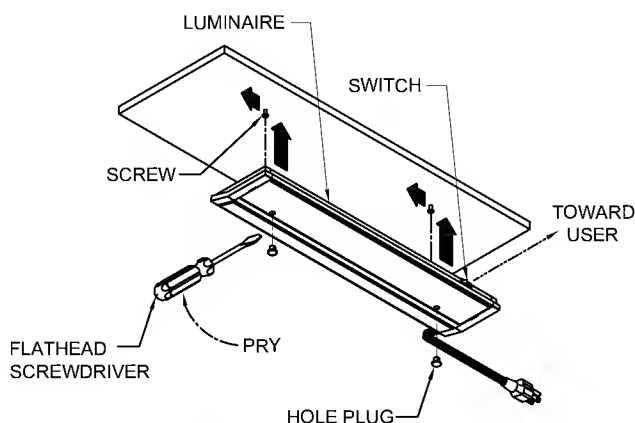

FIG. 2
2. Remove HOLE PLUGS by gently prying them out using a FLATHEAD SCREWDRIVER (retain HOLE PLUGS)(FIG. 2).
3. Align luminaire's KEYHOLE SLOTS over SCREWS making sure SWITCH is facing outward towards user. Push LUMINAIRE up and pass SCREWS through KEYHOLE SLOTS and shift luminaire to left (FIG. 2).